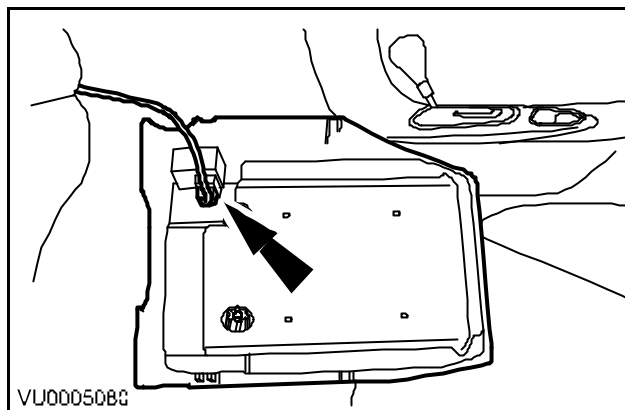

Fig. 2
- 5 Remove steering column lower cowl and disconnect electrical connector from steering column control switch. (See Fig. 2)